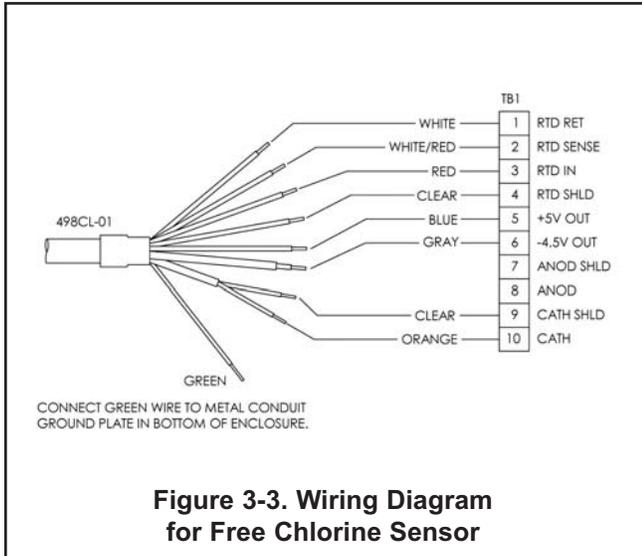

Figure 3-3. Wiring Diagram for Free Chlorine Sensor
6. Wire the sensor to the signal board. Refer to the wiring diagrams in Figures 3-3 and 3-4.